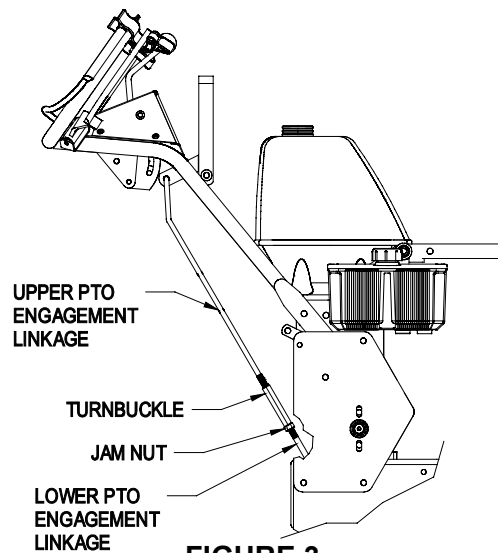

FIGURE 3
3.10 Connect the PTO engagement linkage (See Fig. 3). Loosen jam nut and remove turnbuckle from lower linkage. Screw turnbuckle onto both upper and lower linkages simultaneously. Note that threads on upper linkage are left hand. See 5.2.2 for linkage adjustment.